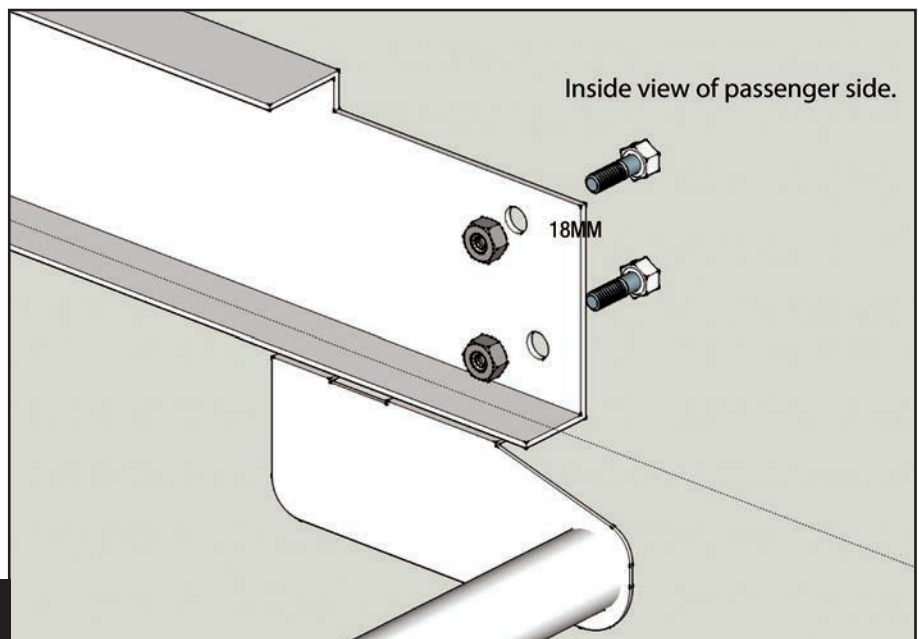

Fig 1
B) Remove OEM bumper fasteners and OEM bumper. Set aside (**Fig 1**).